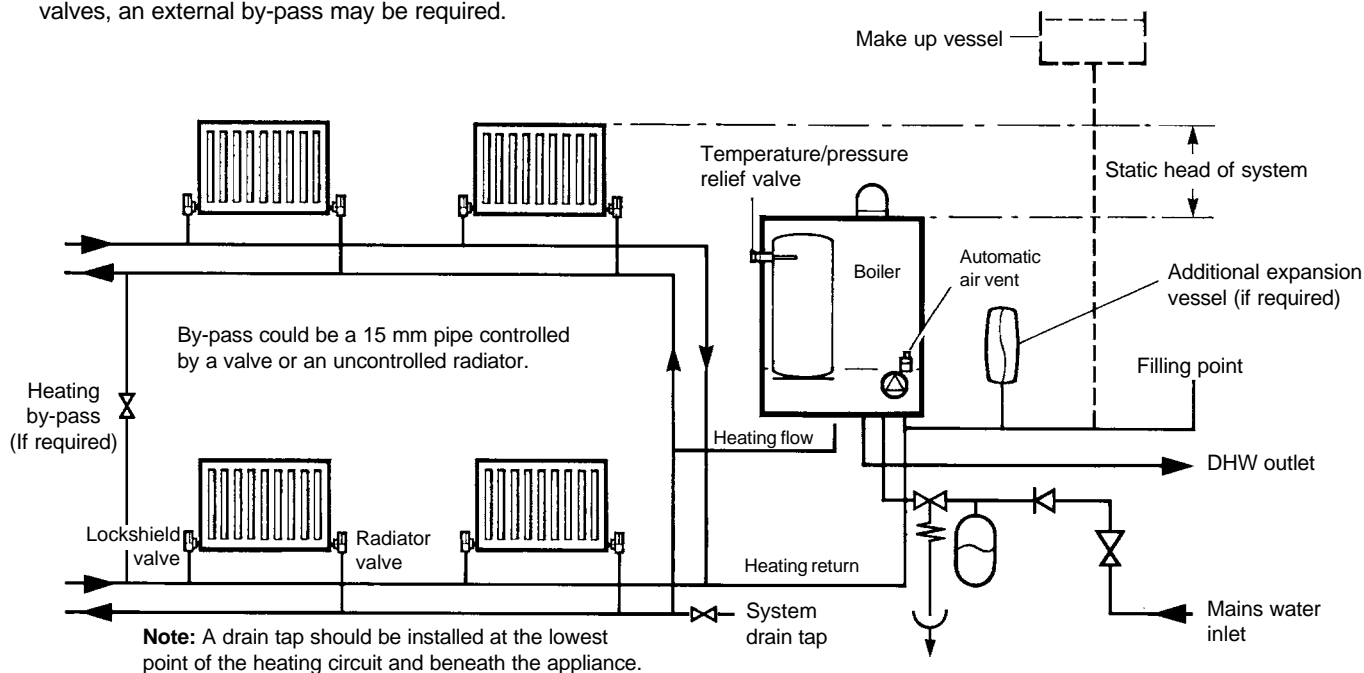
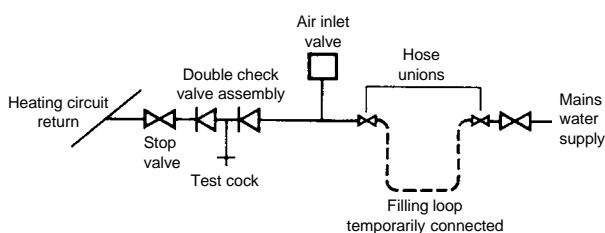
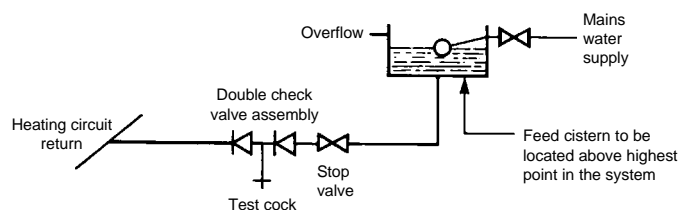

Fig. 5
Fig. 6
Fig. 7
### 3.7 CENTRAL HEATING SYSTEM - Fig. 5
**System volume** - The expansion vessel incorporated into the boiler is suitable for a sealed heating system with a maximum water content of 80 litres (18 gal). For guidance on water contents contact Alpha Therm Ltd. for Technical Data Sheet 15. Above 80 litres, consideration should be given to fitting an additional expansion vessel fitted in the position shown in Fig. 5. To check correct operation of the expansion vessel(s) the system pressure should not be more than 2.5 bar when the system is at maximum operating temperature (for further guidance refer to BS 7074:1).
### 3.8 FILLING THE CENTRAL HEATING SYSTEM - Figs. 6, 7
The system design pressure (cold) should be set to 1.0 bar. This pressure is equivalent to the maximum static head (see Fig. 5) of 10.2 metres of water.
Provision should be made to replace water lost from the system. This can be by manual or automatic means, as shown in Figs. 6 and 7. The position for connecting an automatic make-up vessel is indicated in Fig. 5. A double check valve assembly must be used, as shown in Fig. 7.
Filling of the system must be carried out in a manner approved by the local Water Undertaking. Where allowed, the system may be filled via a temporary connection as shown in Fig. 6. After filling, always disconnect the flexible hose of the filling loop.